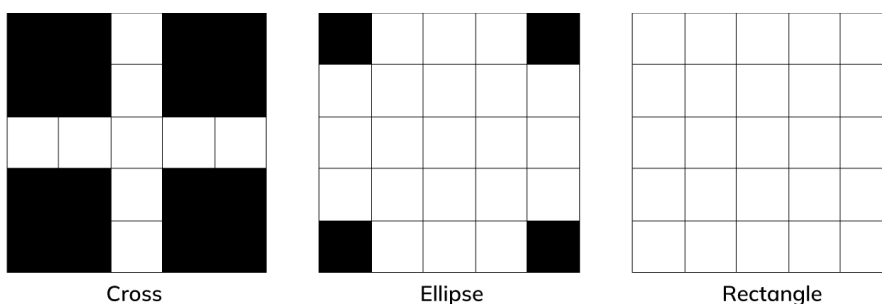

Fig 5. Example of the kernel shape
- ▷ “Rectangle”, “Cross” and “Ellipse” are the three types of shapes that can be selected. (Fig 5 shows examples of the three shapes at 5x5 pixel size)